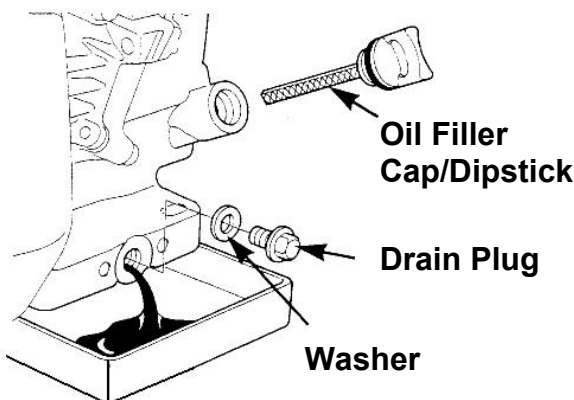

Figure 22
1. Position a suitable oil receptacle under the engine oil drain and remove the engine oil filler cap (*Figure 22*).
2. Remove the engine oil drain plug using the 1/2" wrench (*Figure 22*).